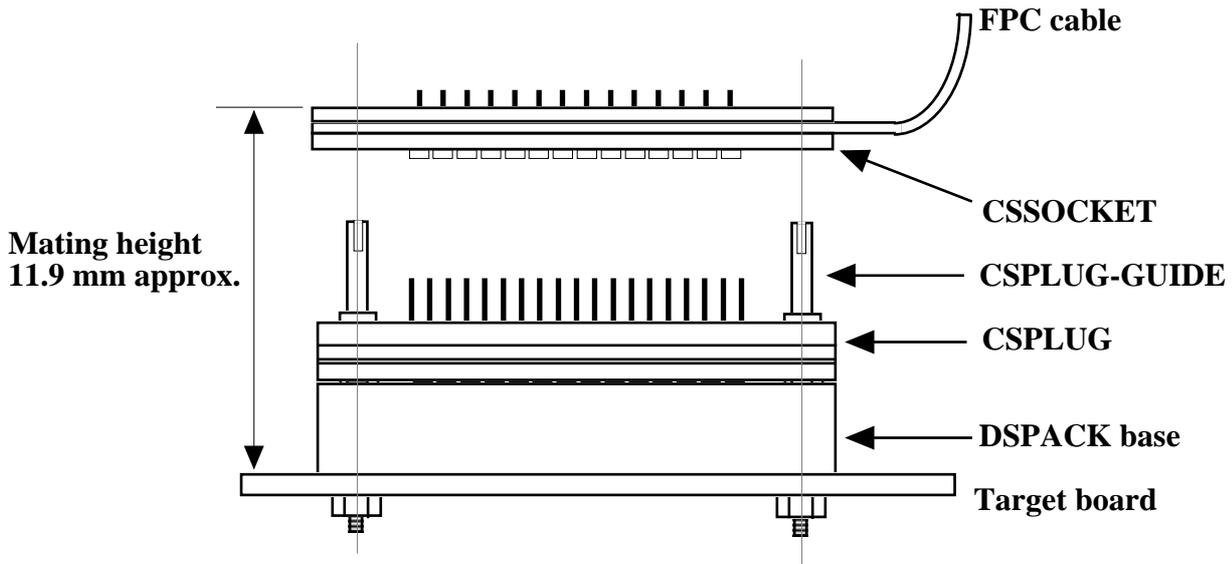

Fig 7. ICE cable connection with CSPLUG and CSSOCKET
1. As shown Fig 7, CSPLUG is assembled onto DSPACK. During tightening CSPLUG-Guide, hold DSPACK base by fingers to protect DSPACKbase from tightening force. CSGUIDE should be tightened in diagonal order with equal torque.